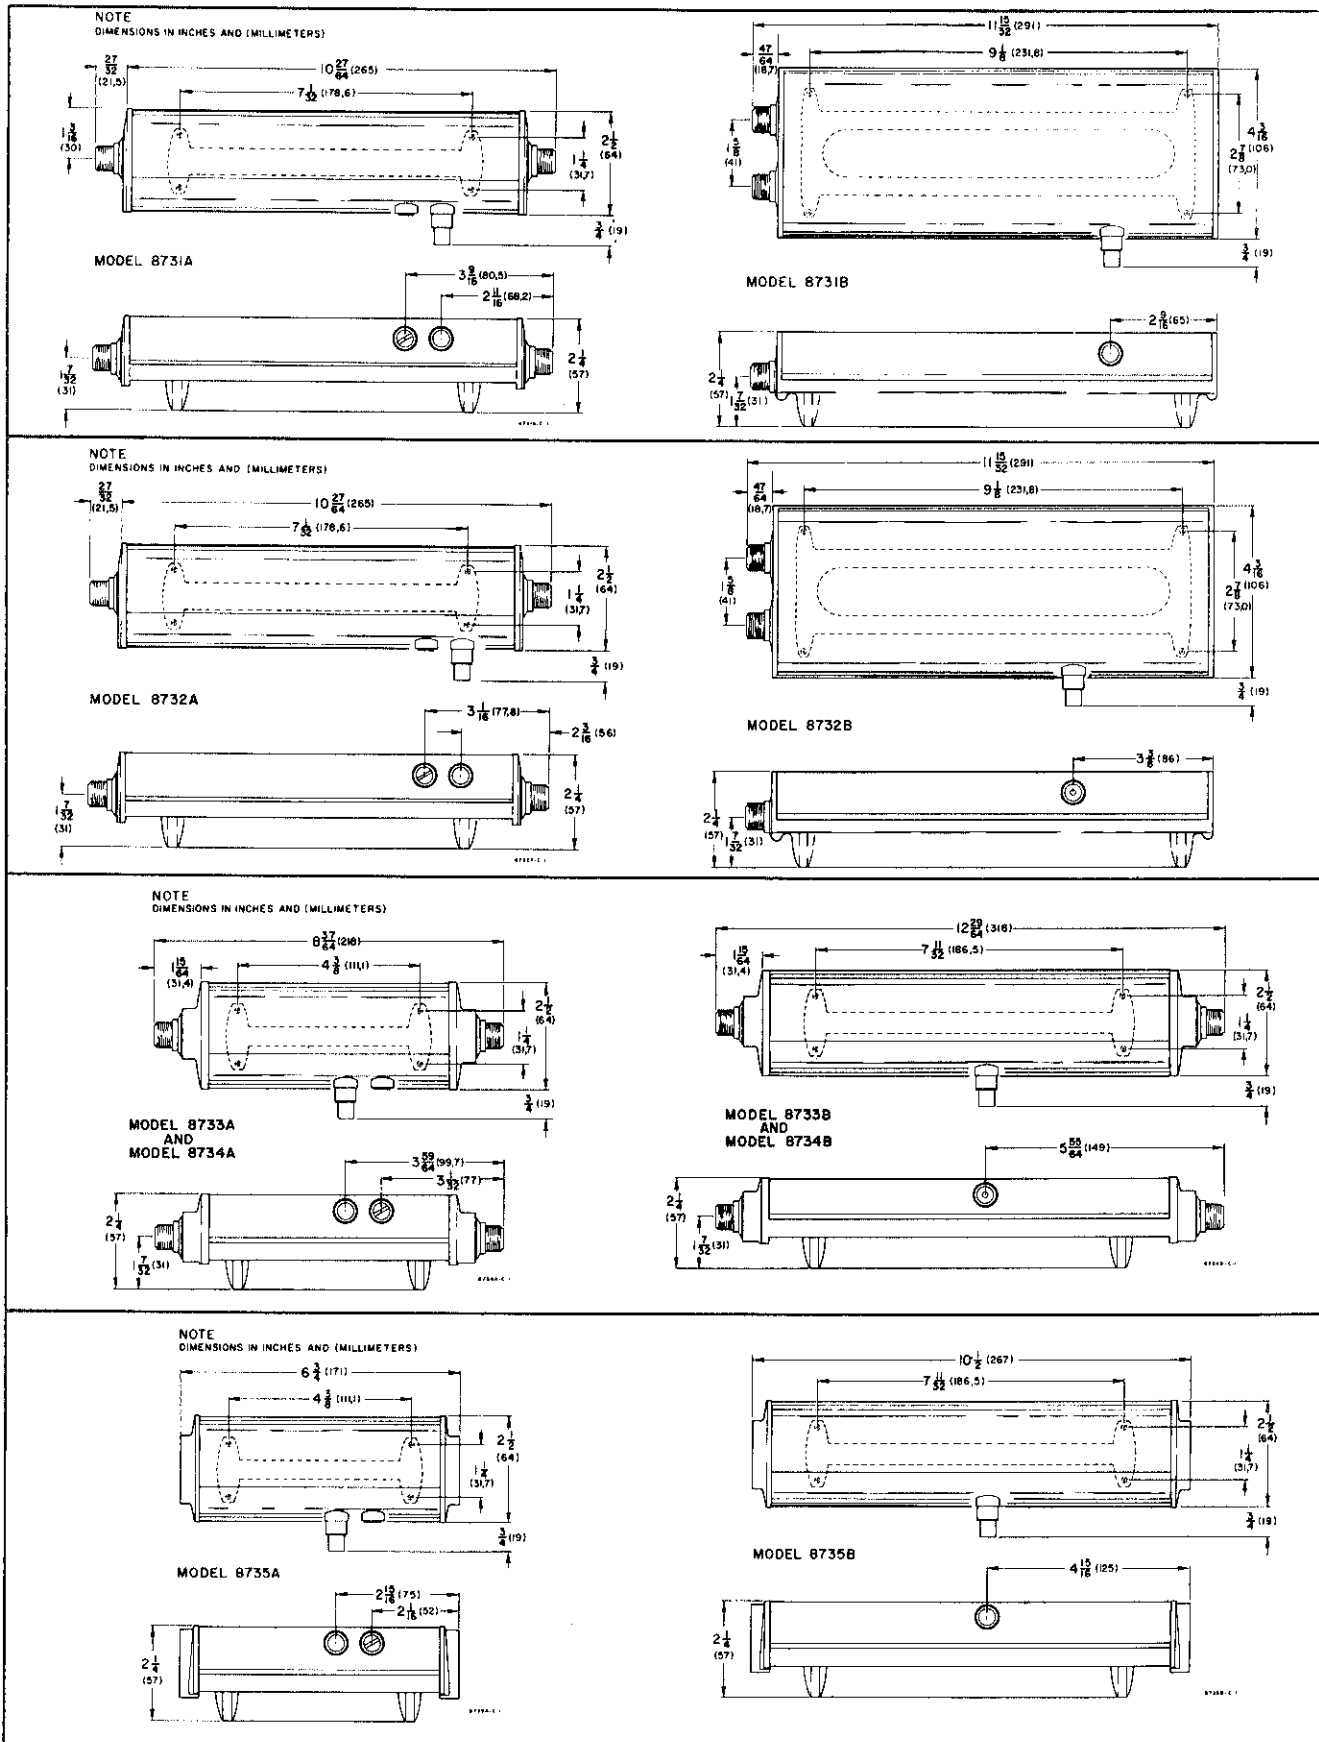

Figure 2. General Outside Dimensions
Dimensions	Illustrated in Figure 2
10. Four 6-32 tapped mounting holes have been provided for mounting purposes. The location of these holes and the overall external dimensions of the PIN Modulators are illustrated in Figure 2.